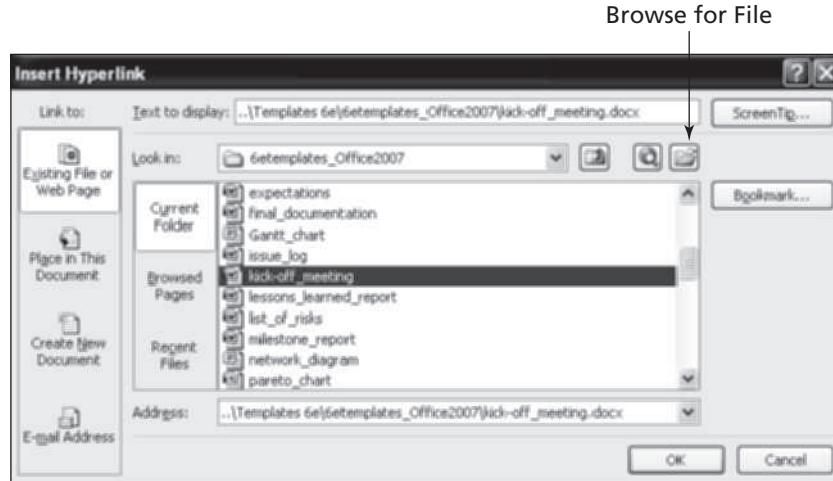

FIGURE A-66 Insert Hyperlink dialog box
3. *Open the Insert Hyperlink dialog box.* Right-click the task name, and then click **Hyperlink**. The Insert Hyperlink dialog box opens, as shown in Figure A-66.